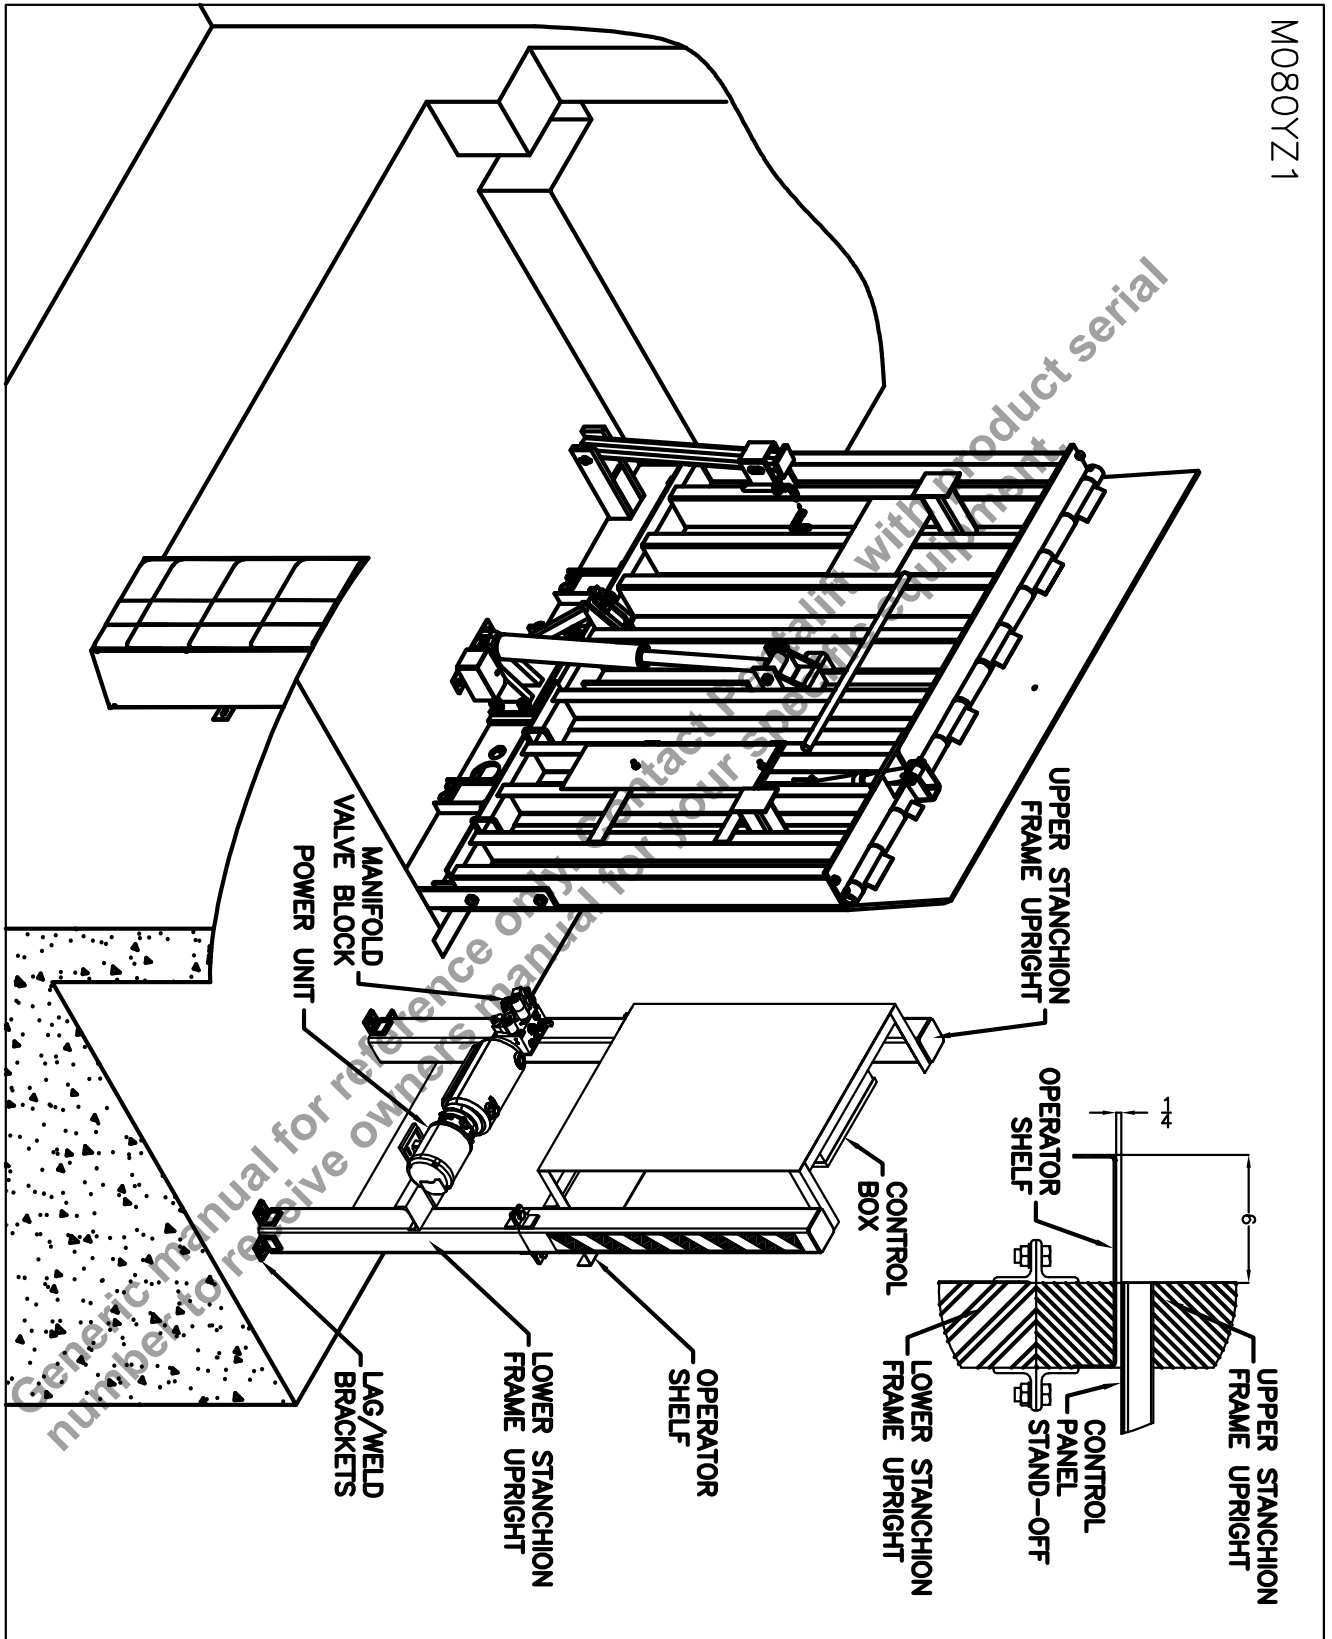

Figure 39: Stanchion-Individual Pit
2. Position the stanchion next to the vertical storing and allow sufficient space between the lower stanchion frame upright and vertical storing dock leveler to avoid pinch points (see "Figure 39: Stanchion-Individual Pit" on page 35)
4. Raise and lower the upper stanchion frame upright onto the lower stanchion frame upright and bolt and secure the two halves together with the supplied fasteners as indicated on "Figure 39: Stanchion-Individual Pit" on page 35.
5. Position the operator shelf between the uprights of the upper stanchion frame and below the control panel stand-off as indicated on "Figure 39: Stanchion-Individual Pit" on page 35. Weld the operator shelf in place once it is properly positioned.